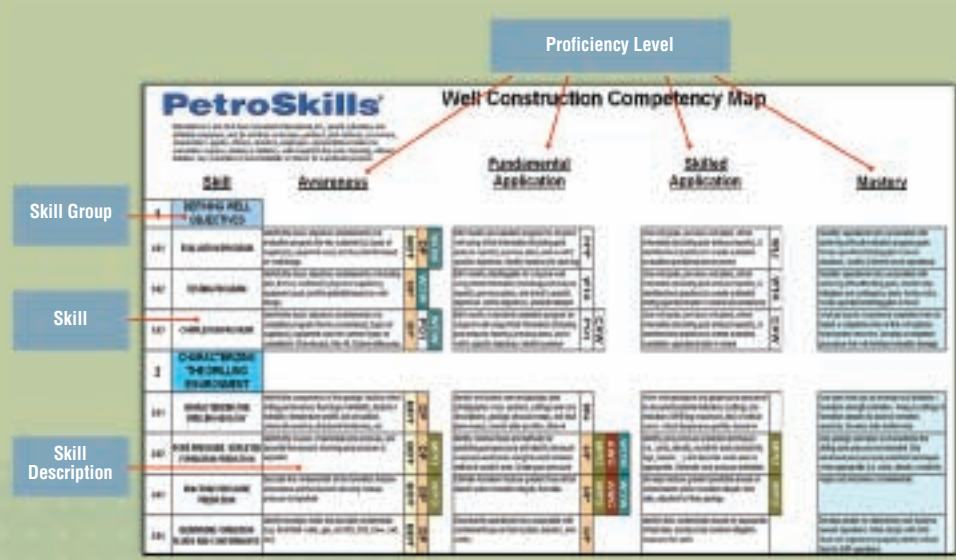

Figure 2: Extract of a Typical Competency Map (CMAP)
1. Discipline: This is the overall title of the CMAP; for example 'Well Construction Competency Map' in Figure 2 (this is only an extract of the map). A map for each discipline has been developed.